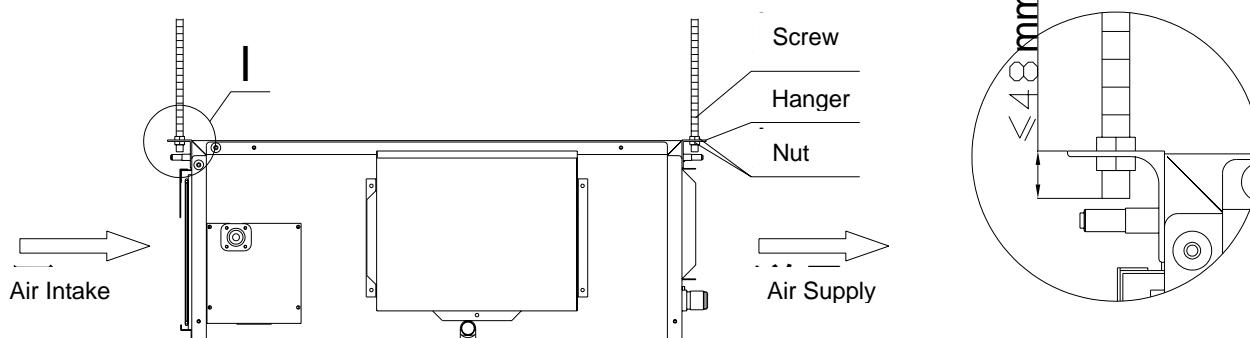

Fig. 34
- (3) Install the indoor unit at the ceiling as Figure 34 shows.